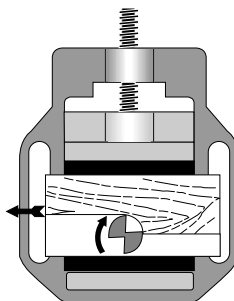

Fig. 6
8. Feed for milling a rebate (Fig. 6)